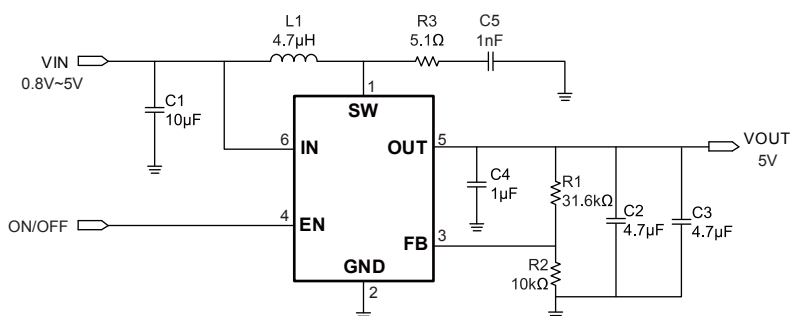

Figure 2— $V_{OUT}=5V$ Typical Application Circuit
When the chip is used in $V_{OUT}=5V$ condition, a RC snubber should be added to protect the MOSFET from over voltage. The recommended parameters are $R3=5.1\Omega$, $C5=1nF$. The circuit can be seen in Figure 2.
- 1) The output capacitor should be placed as close as possible to IC and forms a smallest loop with IC SW and GND pins. as C4 shown in figure2.